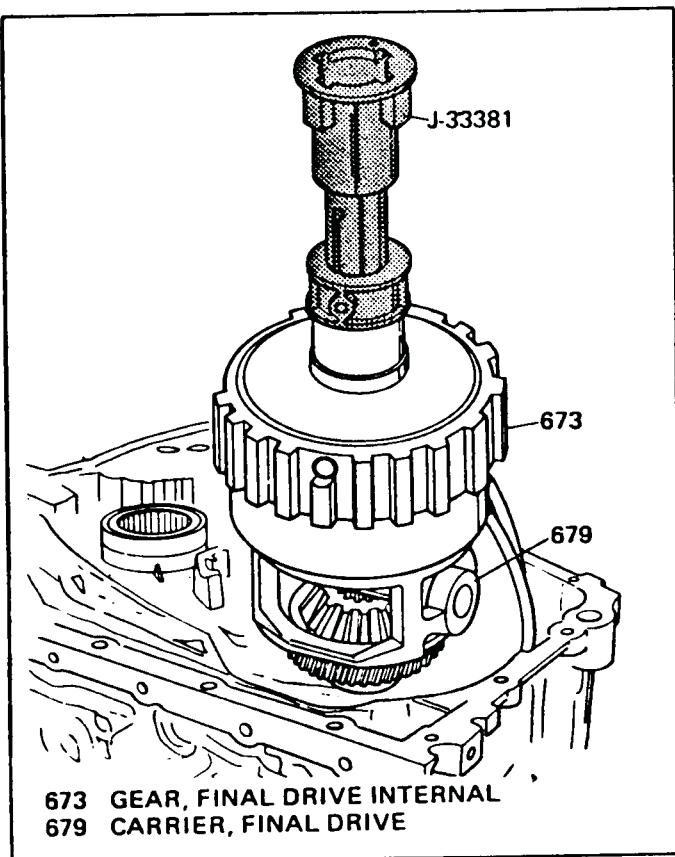

Figure 57
4. Lift straight up to remove final drive assembly complete (See Figure 57).